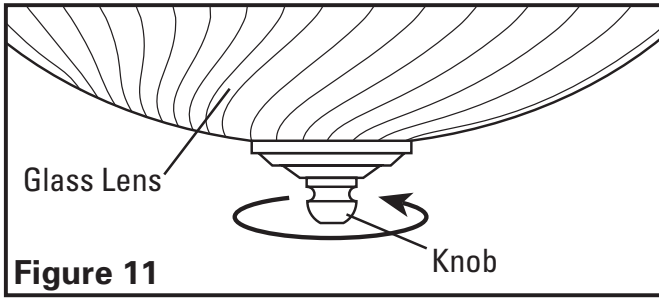
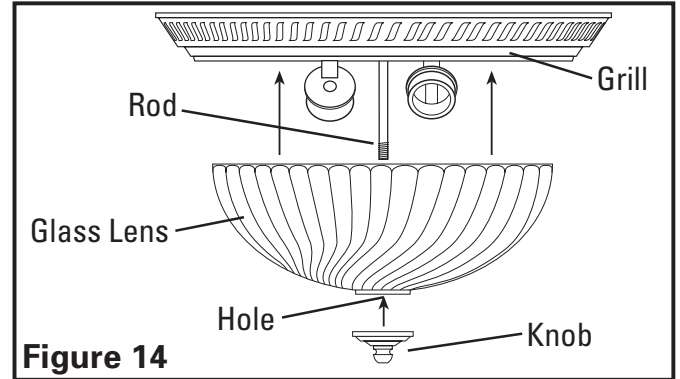

Figure 11
Figure 14
2. Remove glass light lens from grill by unscrewing knob at the top of lens (Figure 11).
6. Reinstall the glass lens in place by sliding the hole in the lens onto the rod from the grill and securing in place with the lens knob (**Figure 14**).
3. **Changing the Light Bulb:** Disconnect power to the unit. Remove glass light lens from grill by unscrewing knob at the top of lens (**Figure 11**). Replace light bulb(s) with 60 watt maximum, type A19 medium base incandescent bulb(s). Reinstall the glass lens in place by sliding the hole in the lens onto the rod from the grill and securing in place with the lens knob (**Figure 14**).